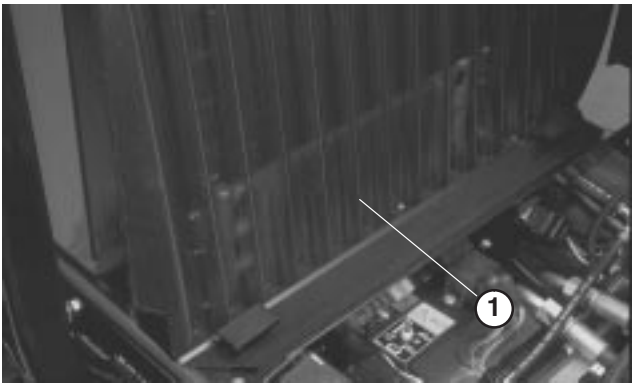

Figure 55
2. Loosen clamps and pull up on screen to slide it out of mounting tracks (Fig. 55). Clean screen thoroughly with water or compressed air.